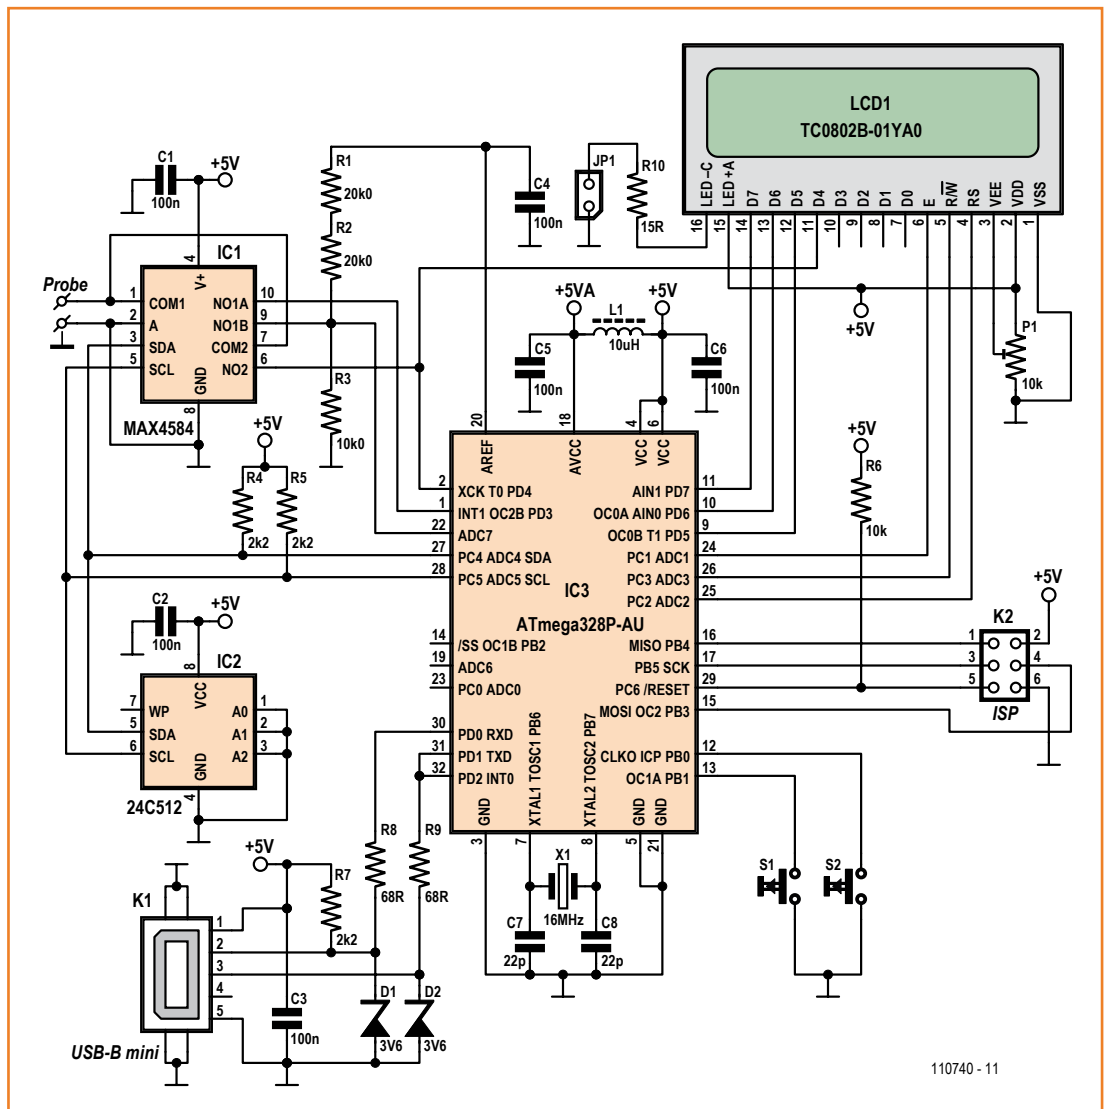

Figure 3. The circuit is based around an ATmega328, which is pin-compatible with the popular ATmega88.
**Figure 3** shows the current state of the circuit design, incorporating several of Thomas Ücok's clever ideas. The circuit is based around and ATmega328P, wired in the conventional fashion. It is clocked by a 16 MHz crystal and is powered at 5 V. An ISP connector allows the microcontroller to be programmed. The LCD module is driven in four-bit mode, and P1 allows its contrast to be adjusted. JP1 gives the option of activating the display's backlight.